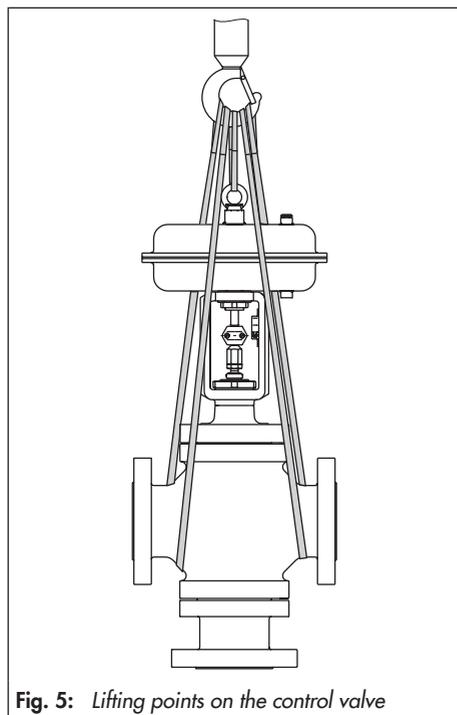

Fig. 5: Lifting points on the control valve
1. Attach one sling to each flange of the body and to the rigging equipment (e.g. hook) of the crane or forklift (see Fig. 5).
We recommend using a hook with safety latch (see Fig. 5). The safety latch prevents the slings from slipping during lifting and transporting.